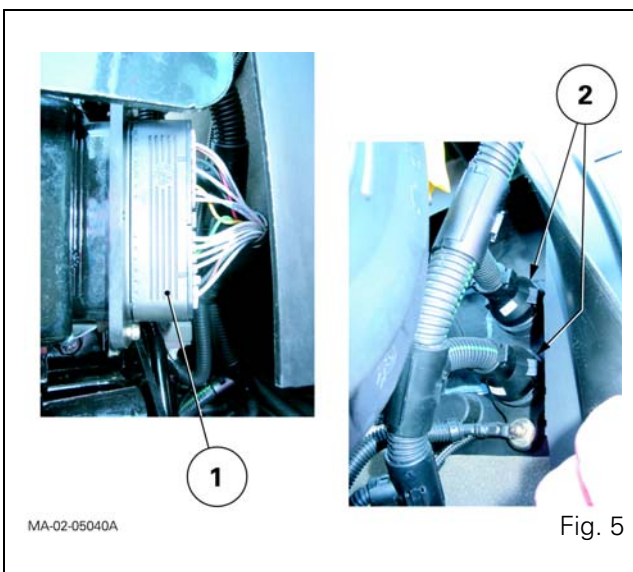
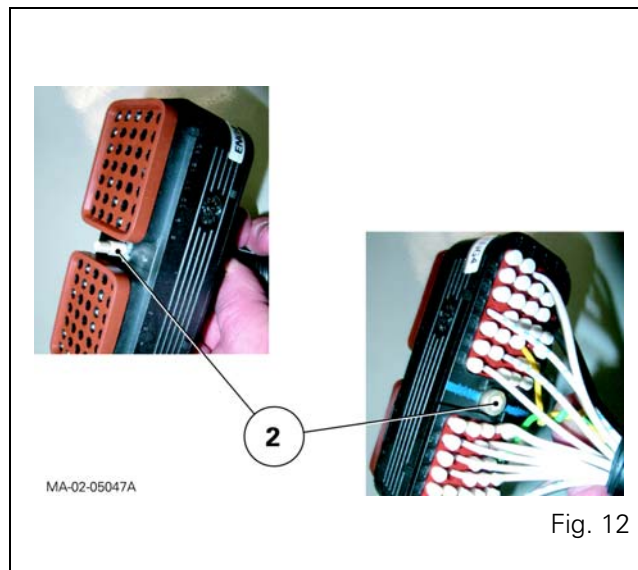

Fig. 5
Fig. 12
14. If necessary disconnect the connector (1) of the main wiring harness (Fig. 5).
16. Disconnect the connectors (2) on the left-hand face of the fire wall (Fig. 5).
- Screw (2) of connector (1) on main wiring harness (Fig. 5 and Fig. 12) 2.82 to 3.15 Nm